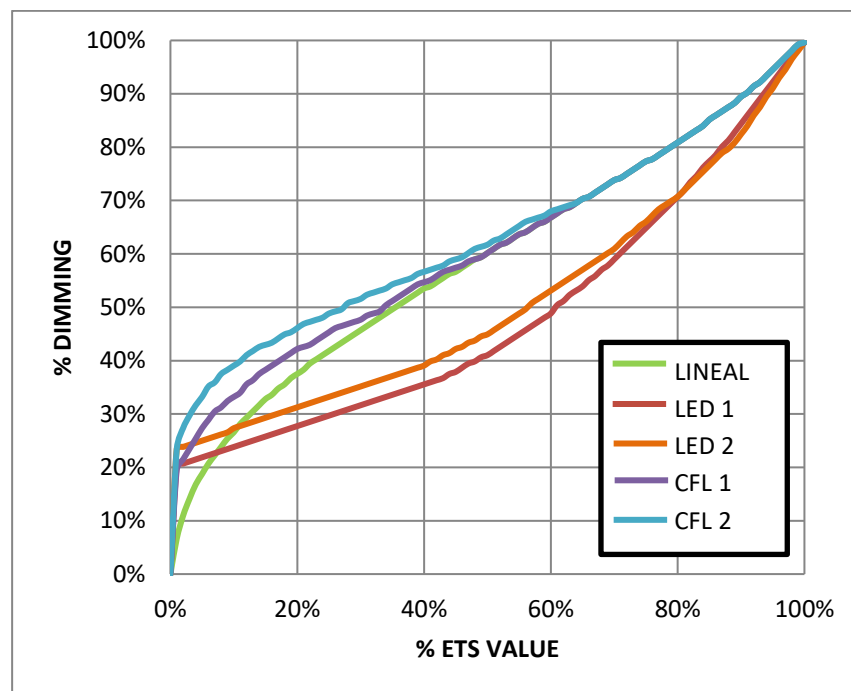

Figure 8 Dimming Patterns for LED and CFL loads.
- **Dimming Pattern**: [Linear / Curve 1 / Curve 2]. Figure 8 shows the different regulation curves for each load type.